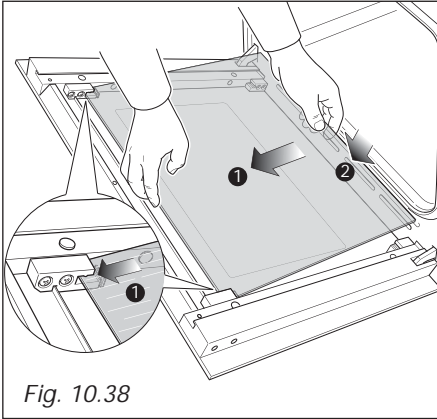

Fig. 10.38
- Gently insert the top edge of the pane into the top clamps (arrow 1 in fig. 10.38), then lower the pane and insert the bottom edge into the bottom clamps (arrow 2 in fig. 10.38); and then slide the pane into position (fig. 10.39).